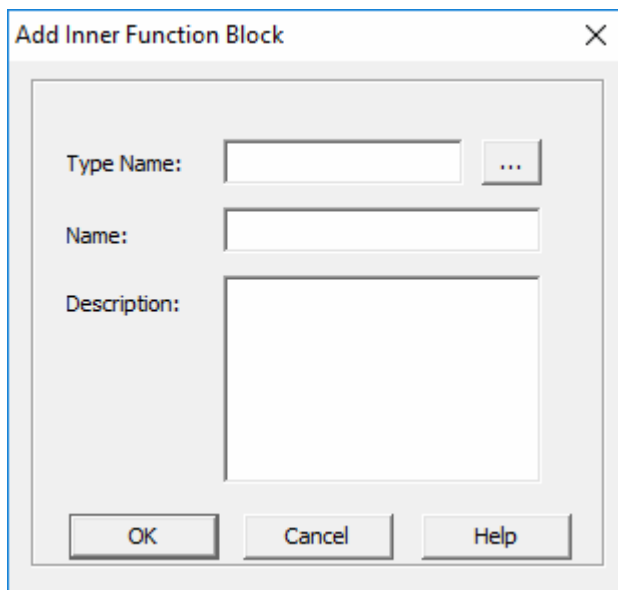

Figure 2-9 Add function block variable
- Input name and description in dialog box shown in Figure 2-9, after click "OK", a new function block variable will be added.